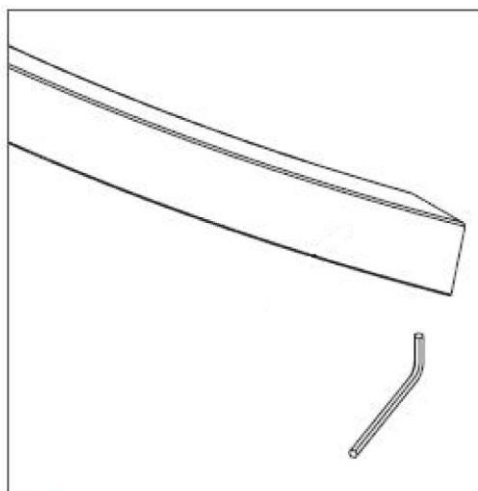

Fig 5.0
- Fix the towel rail in position using the allen key provided. See Fig 5.0